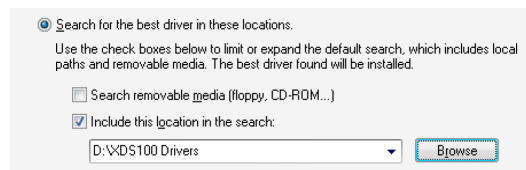

Figure 6. Driver Options
9. Select *Search for the best driver in these locations*, uncheck *Search removable media*, and check *Include this location in the search* and browse to [USB Drive]:\XDS100 Drivers (see Figure 6).